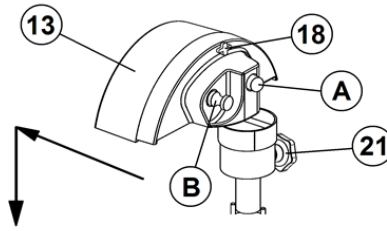

FIG 12. HOW TO RE-SHARP THE KNIFE
2.- Knife: after a period of use (1 month) or if you notice that the quality of the sliced meat is not as good as the first time, you will have to re-sharpen the knife (2):
B.- Loosen the sharpener lock knob (21) under the sharpening assembly, until it springs up (See Fig. 12).
C.- Lift the sharpener assembly and rotate it 180°, reassemble and secure it. Verify that the stones are on each side of the knife (approx. 1/4" under the edge), then tighten the knob (21) again.
F.- Turn off the equipment and wait until the blade comes to a complete stop. Loosen the sharpener knob (21), lift the sharpener and place it in its original position. Retighten the sharpener knob.
F. Turn off the machine and wait until the Cutting Blade stops. Then loosen the sharpener lock knob (21), pull up the sharpener and reinstall in its stowed position. Tighten the sharpener lock knob again.